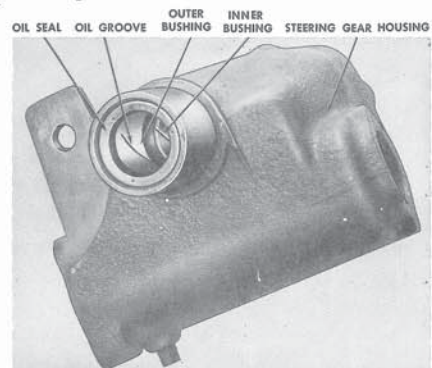

Fig. 66. Oil Seal and Bushing - Installed View
**Replace Levershaft Oil Seal and Bushing.** (Figure 66). Pry old oil seal out of housing. Press bushings out of housing, using an arbor press.